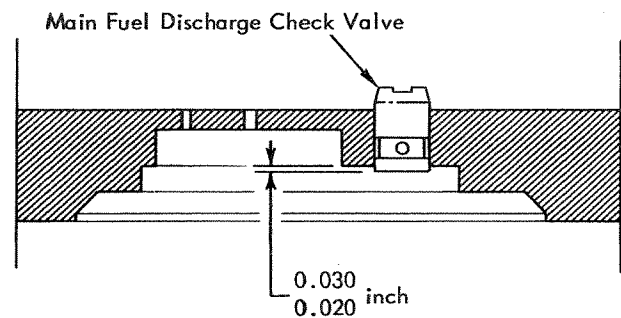

FIGURE 23
2. If a new main fuel discharge check valve is to be installed, press it in as shown in Figure 23 to 0.020 to 0.030 inch above the bottom of the carburetor body.